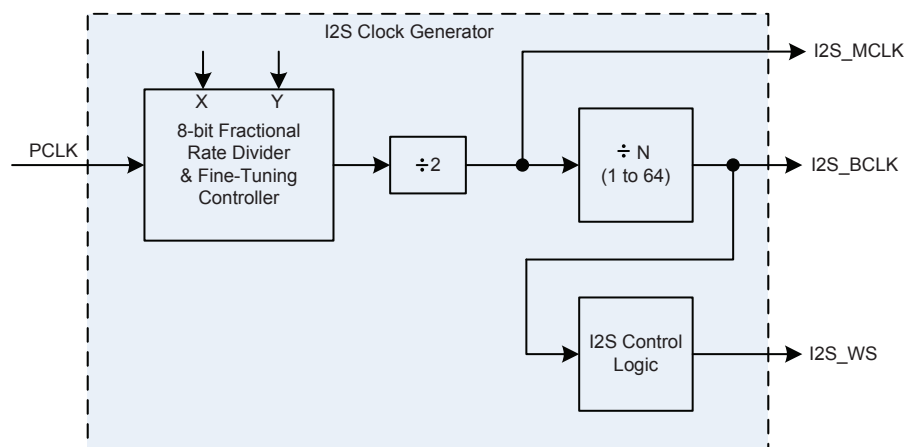

Figure 193. I²S Clock Generator Diagram
The main (I²S_MCLK) and bit clock (I²S_BCLK) rates for the I²S are determined by the values in the I2SCDR register. The required I²S bit clock rate setting depends on the desired audio sample rate desired, the format (stereo/mono) used, and the data size. The main clock rate (I²S_MCLK) is generated using a fractional rate divider which is a divided down PCLK frequency of the I²S. Values of the numerator (X) and the denominator (Y) must be chosen to produce a frequency twice that of the main clock (I²S_MCLK). The output frequency of the divider is divided by 2 in order to get the duty cycle of the output clock more even. The I²S clock generator block diagram is shown in Figure 193. The equation for the fractional rate divider is: